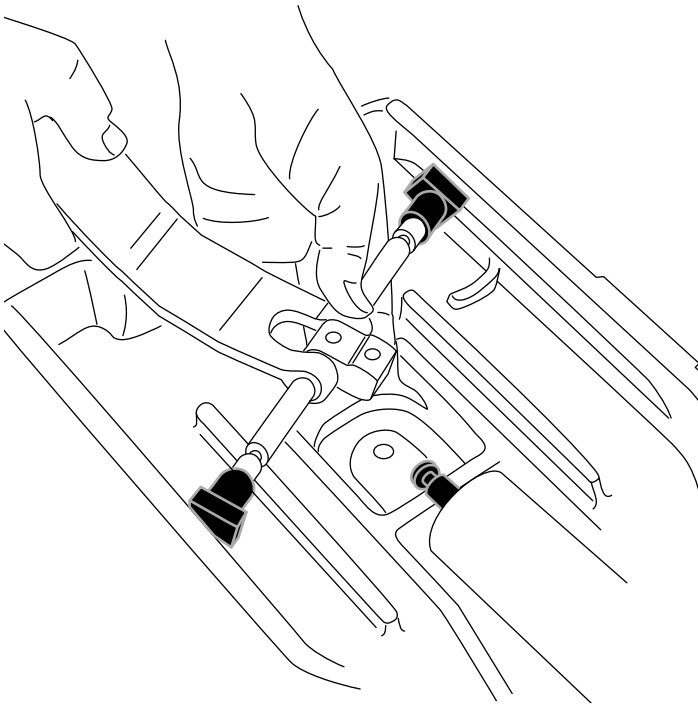

FIGURE 6
2. Rotate the back link rod to align and install the back link lug to the tilt cylinder (see Figures 6 and 8).